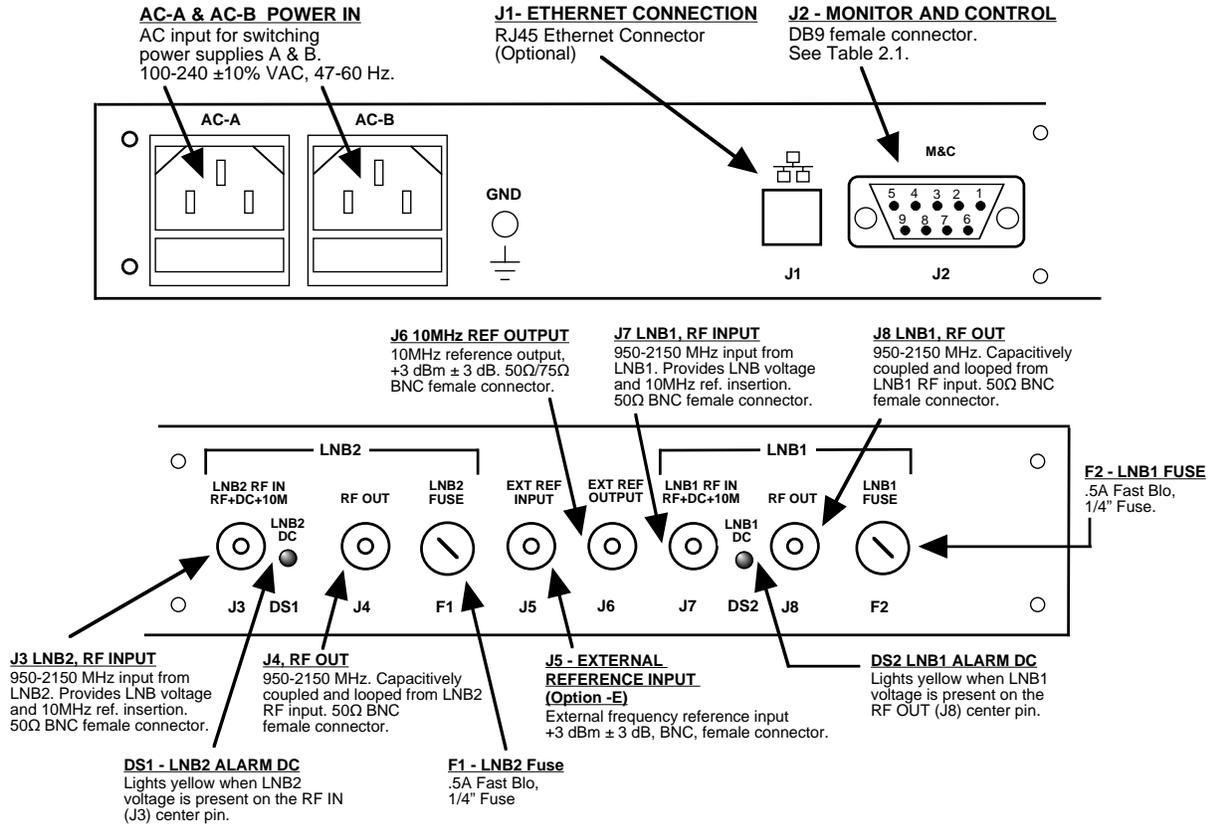

FIGURE 2.1 2099-1318 Rear Panel Outputs
2.2) Rear Panel Output Signals - Figure 2.1 shows the input and output connectors on the rear panel.
2. Connect 100-240 \pm 10% VAC, 47-63 Hz to AC-A and AC-B connectors (Figure 2.1).